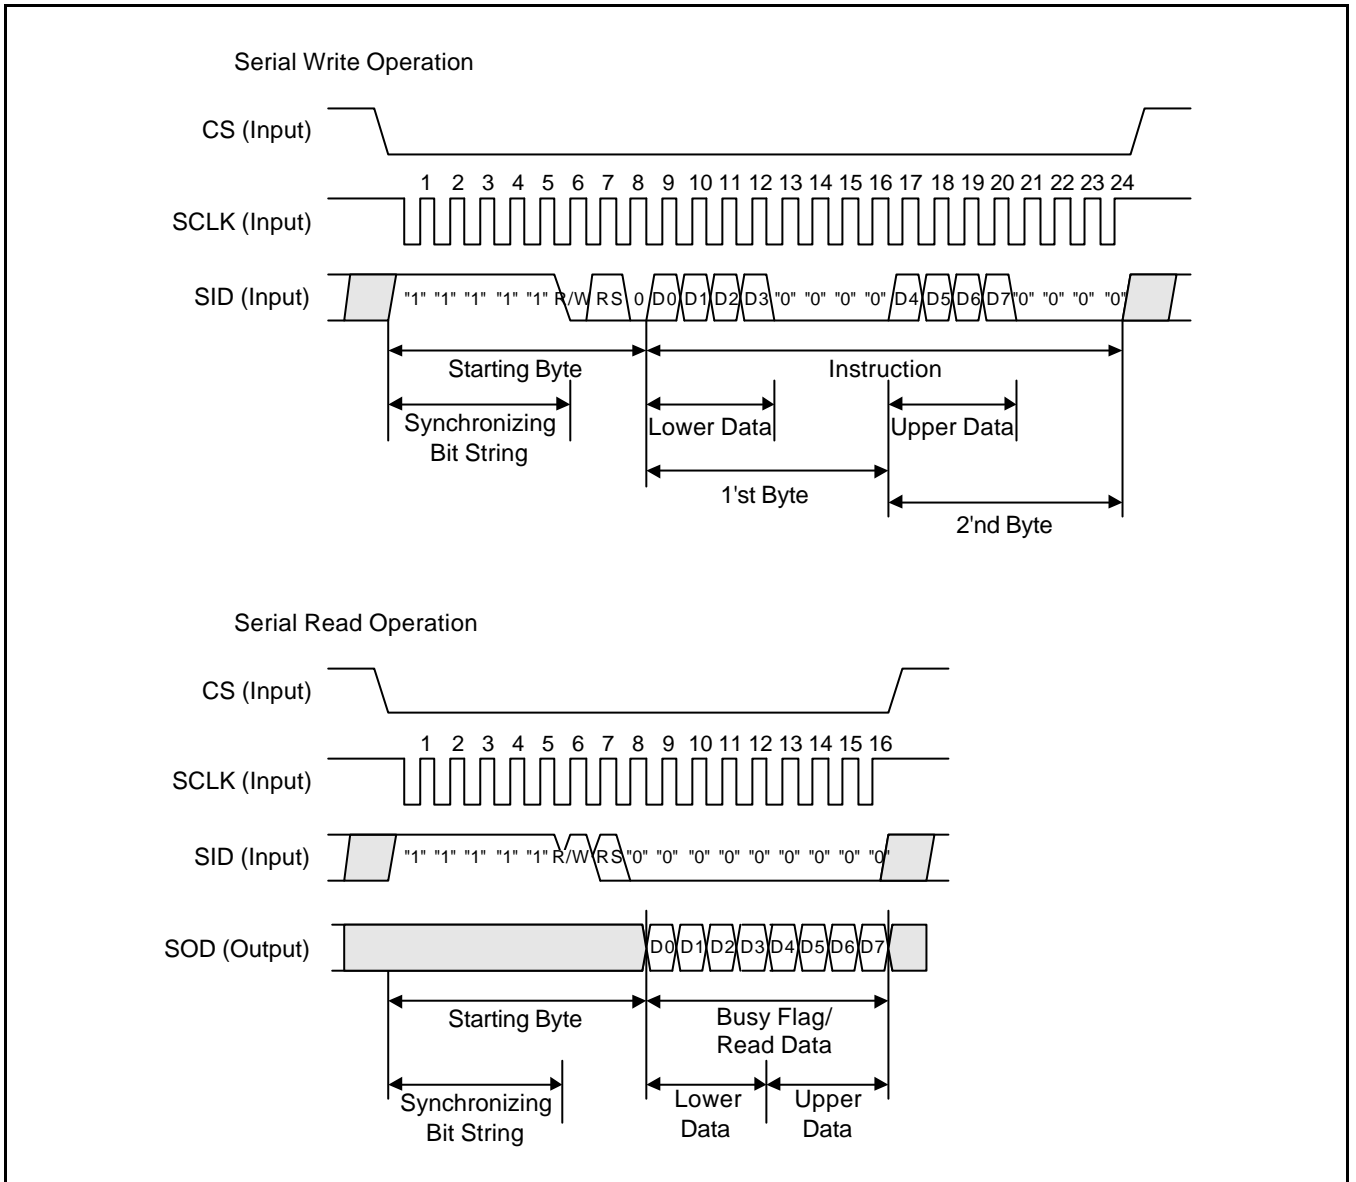

Figure 13. Timing Diagram of Serial Data Transfer
When IM port input is "Low", serial interface mode is started. At this time, all three ports, SCLK (synchronizing transfer clock), SID (serial input data), and SOD (serial output data), are used. If you want to use S6A0074 with other chips, chip select port (CS) can be used. By setting CS to "Low", S6A0074 can receive SCLK input. If CS is set to "High", S6A0074 reset the internal transfer counter. Before transfer real data, start byte has to be transferred. It is composed of succeeding 5 "High" bits, read write control bit (R/W), register selection bit (RS), and end bit that indicates the end of start byte. Whenever succeeding 5 "High" bits are detected by S6A0074, it makes serial transfer counter reset and ready to receive next information. The next input data are register selection bit that determine which register will be used, and read write control bit that determine the direction of data. Then end bit is transferred, which must have "Low" value to show the end of start byte (Refer to Figure 13, Figure 14).